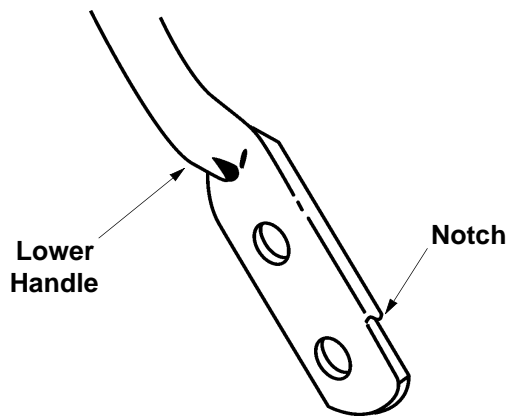

Figure 10
4. Turn the lower handle around so the notches on the bottom of the lower handle are facing forward as shown in Figure 10.